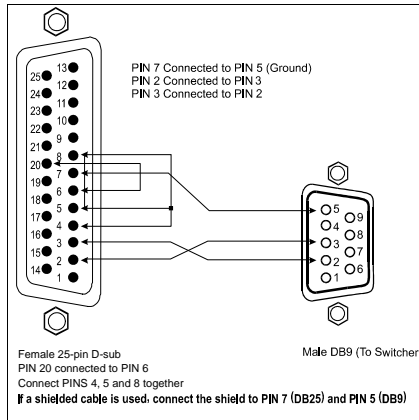

Figure 14: Connecting a PC (with a 25-pin connector) without a Null-modem Adapter
1. Connect the PC's 25-pin D-sub COM port to the RS-232 IN 9-pin D-sub port on the **VS-1616A** unit, as Figure 14 illustrates: